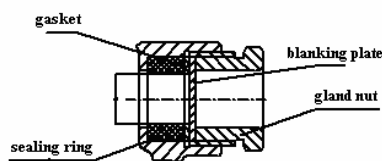

Fig.3 Cable inlet sealing structure
- 2.1.1 First, open the case cover; put power cable and control cable respectively through "wiring inlet structure" and into the control case. Please see Fig.3 for wiring inlet structure.